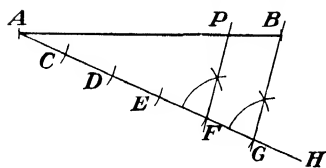

Fig. 134.
a. Draw any line, such as  $AH$ . See Fig. 134.